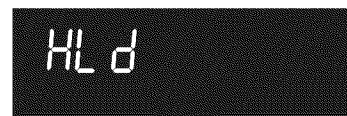

Fig. 4
- "HLD" for hold will appear in the display (Fig. 4).